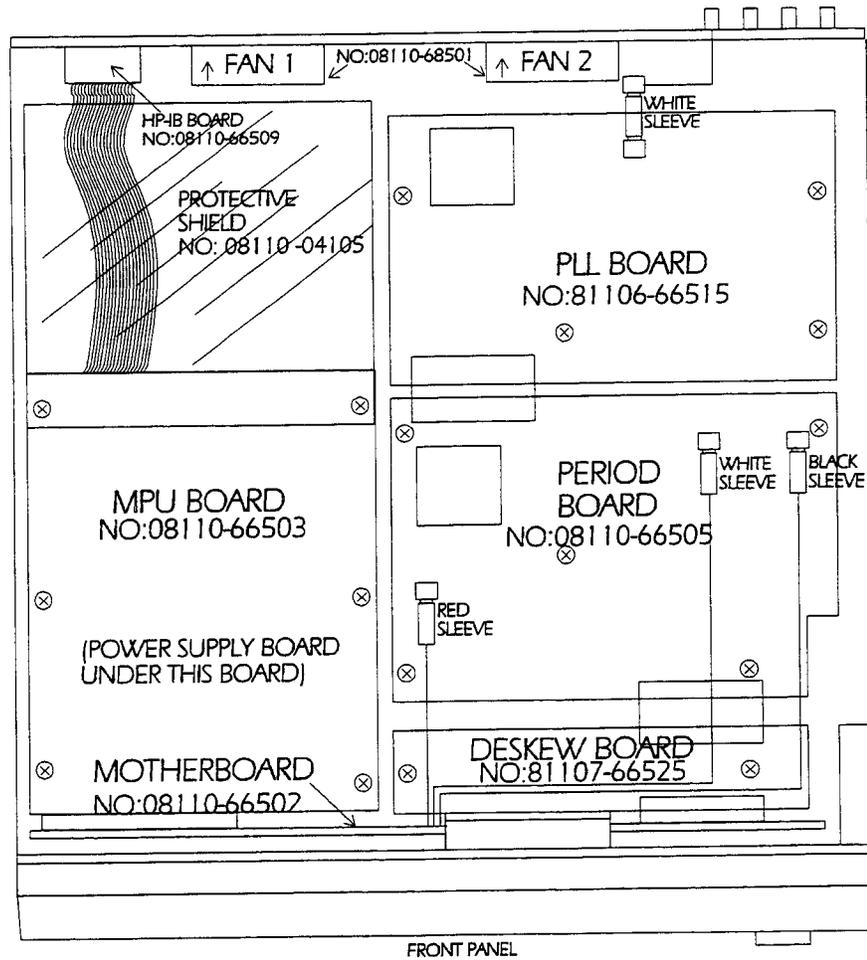
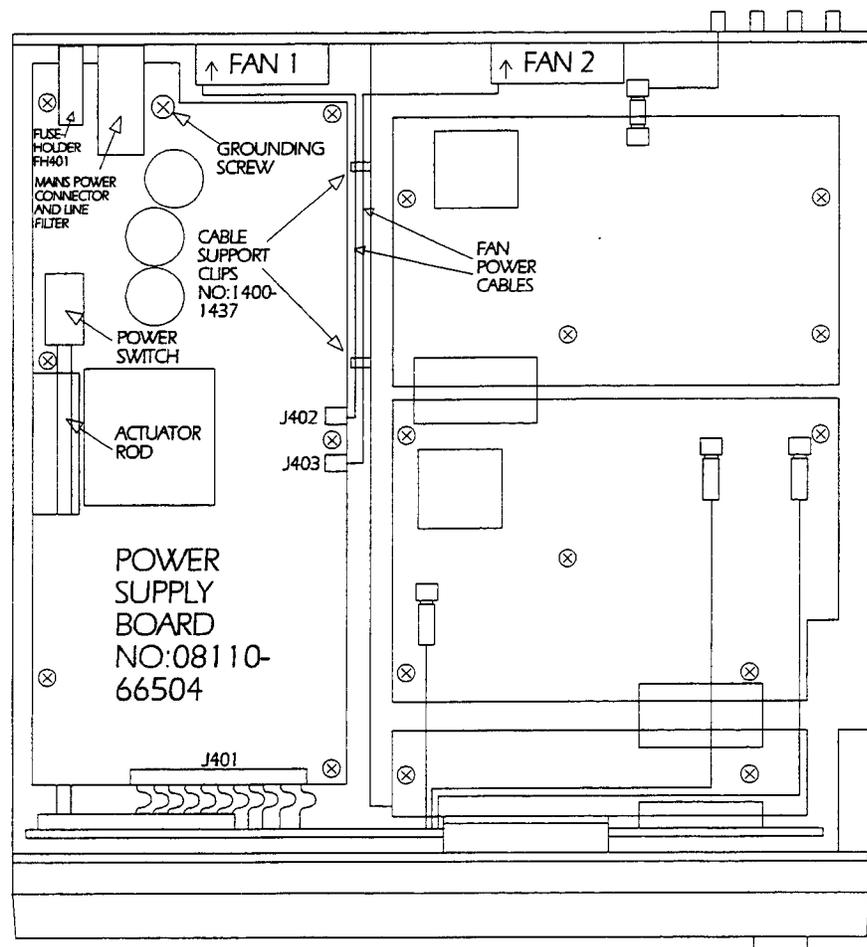

Figure 5-7. Top View of HP 8110A
Figure 5-8. Top View of HP 8110A with MPU board Removed
Underneath the Microprocessor (MPU) board is the Power Supply board (shown in Figure 5-8). On the underside of the chassis there are 1 or 2 Output boards (Figure 5-9 and Figure 5-10). This represents a fully fitted instrument. The instrument you are about to service may have several combinations of boards.
Figure 5-7 gives a general view of the HP 8110A from the top of the chassis. The fixing screws for the boards are shown. The Power Supply board is under the MPU board, and is shown in Figure 5-8.
Referring to the general top-view diagram Figure 5-7, proceed as follows:
Figure 5-8 shows the position of the Power Supply board and its fixings:
4. Remove the actuator rod from the power switch (see Figure 5-8 for its position) using the long-nosed pliers
6. Disconnect the two fan power connectors J402 and J403 (see Figure 5-8 for their positions), noting which plug goes to which connector
- Carefully, pull the board back until the ribbon cable connected to J401 (see Figure 5-8 for position of J401) becomes fairly straight.
1. Lay the Power Supply board inside the chassis with the Power Inlet end propped up on the rear panel. Connect the Motherboard ribbon-cable connector to J401 (see Figure 5-8 for position of J401)
8. Reconnect the two fan power connectors J402 and J403 (see Figure 5-8 for their positions), ensuring that each plug is connected to the correct connector
You can also see the position of the fans in Figure 5-7 and Figure 5-8.